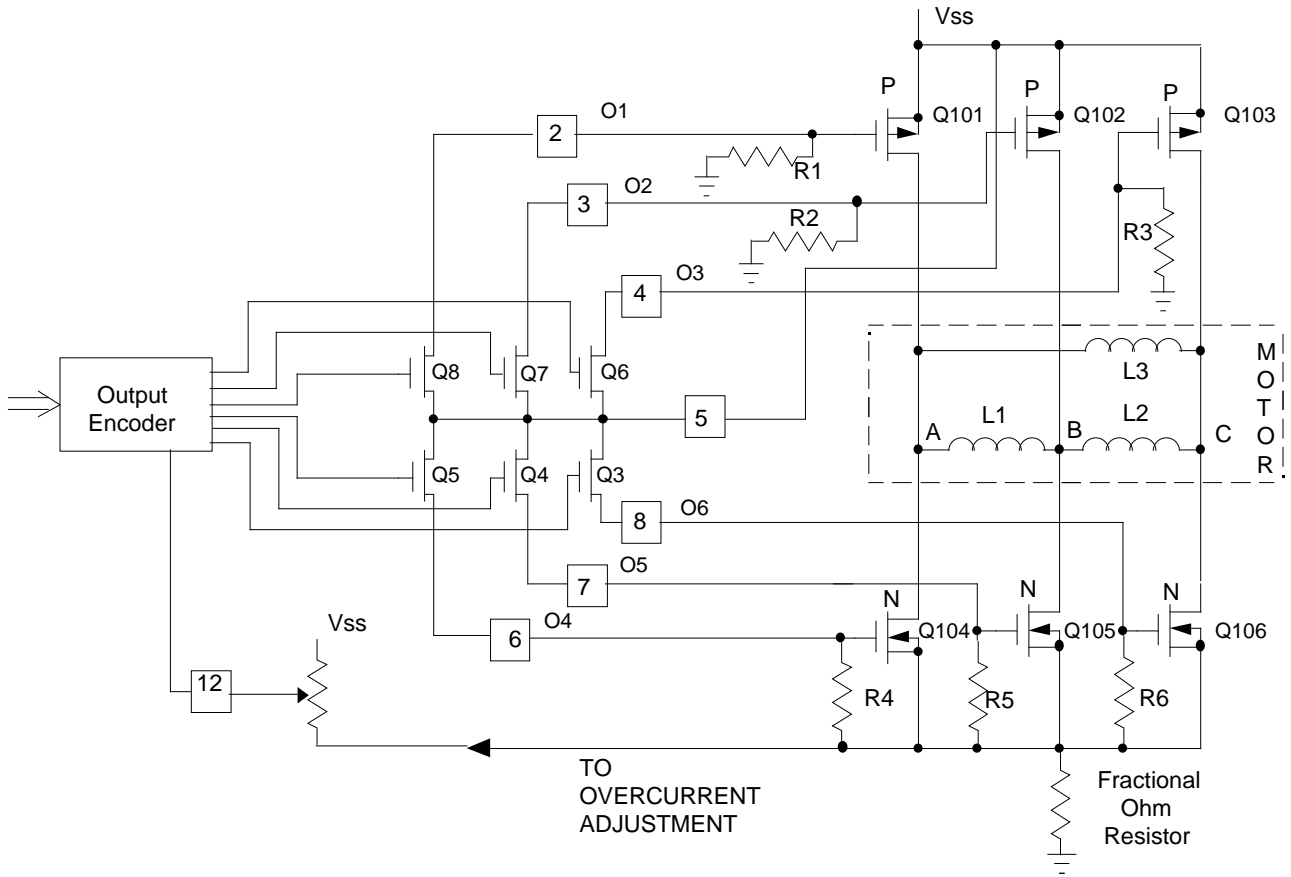

FIGURE 1. LS7260 THREE PHASE OUTPUT DRIVER CIRCUITRY
A positive braking feature is provided to effect rapid deceleration. While the LS7262 is designed for driving NPN and PNP transistors (See Fig. 2), the LS7260 is designed to drive both NMOS and PMOS Power FETs and develops a full 12V drive for both the N-Channel and P-Channel devices (See Fig. 1) when using a 12V power supply.
For the LS7262, a high level at this input unconditionally turns Off Outputs 1, 2 and 3 and turns On Outputs 4, 5 and 6 (See Fig. 2). For the LS7260, a high level at this input turns On Outputs 1, 2 and 3 and Outputs 4, 5 and 6 (See Fig. 1). In both cases, transistors Q101, Q102 and Q103 cut off and transistors Q104, Q105 and Q106 turn on, shorting the windings together. The BRAKE has priority over all other inputs.
The oscillator is used for motor speed control as explained under VTRIP. Both upper and lower motor drive transistors are pulse width modulated (see Fig. 1 or 2) during speed control. For the LS7262, the outputs turn on in pairs (See Table 3). For example (see dotted line, Fig. 2): Q8 and Q4 are on, thus enabling a path from the positive supply through the emitter-base junction of Q101, Q8, Q4, R5, the base emitter junction of Q105 and the fractional-ohm resistor to ground. The current in the above described path is determined by the power supply voltage, the voltage drops across the base-emitter junctions of Q101 and Q105 (1.4V for single transistor or 2.8V for Darlington pairs), the impedance of Q8 and Q4 and the value of R5. Table 1 provides the recommended value for R5. R4 and R6 are the same value.
For the LS7260, (See Fig. 1) the external drivers also turn on in pairs. Internal operation is somewhat different than the LS7262. For example, external transistors Q101 and Q105 will turn on when internal transistor Q8 turns off and Q4 turns on enabling full power supply drive on Q101 and Q105. Since Pin 5 is tied to Vss, the gate of P-channel Driver Q101 is brought to ground by R1 and the Gate of N-Channel driver Q105 is brought to Vss by Q4. Other external output pairs turn on similarly and the commutation sequence is identical to that of the LS7262 (Table 3). Table 2 indicates the minimum value of R1 (= R2 = R3 = R4 = R5 = R6) needed as a function of output drive voltage for Fig. 1.
* See Figures 1 and 2. For the LS7260, Outputs O1,O2,O3 are the logical inversions of the corresponding Outputs of the LS7262.